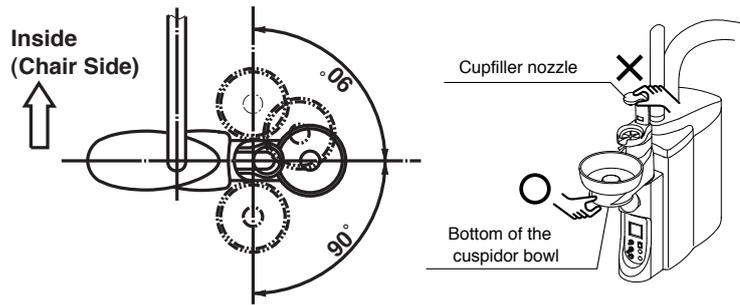

Fig.3-23 Cuspidor Bowl Rotation
(6) Cuspidor Bowl Rotation (Optional) (Fig.3-23)